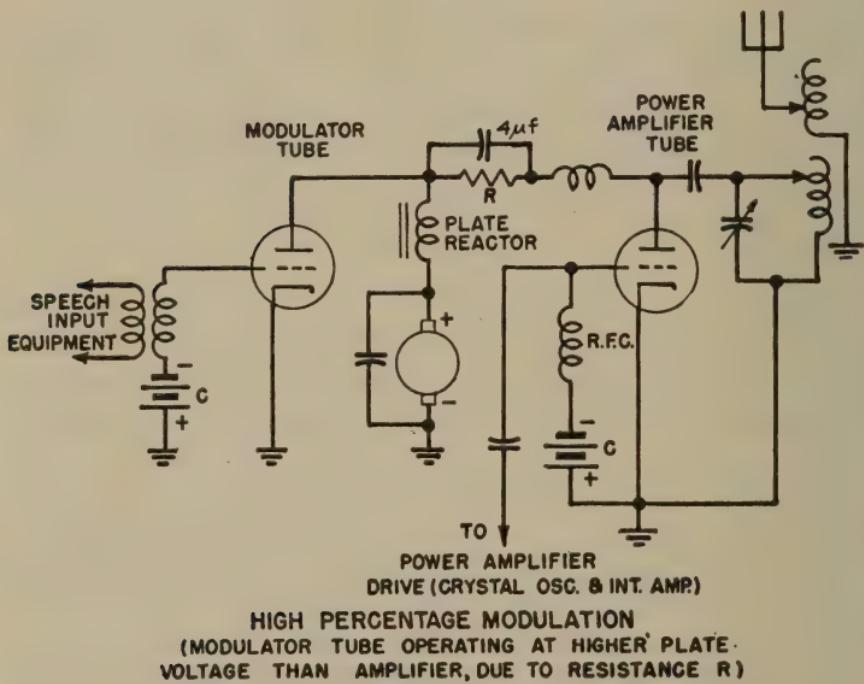

FIG. 3-3.—Plate-modulation system.
*Ans.* See Fig. 3-3.
Ans. See Fig. 3-3.